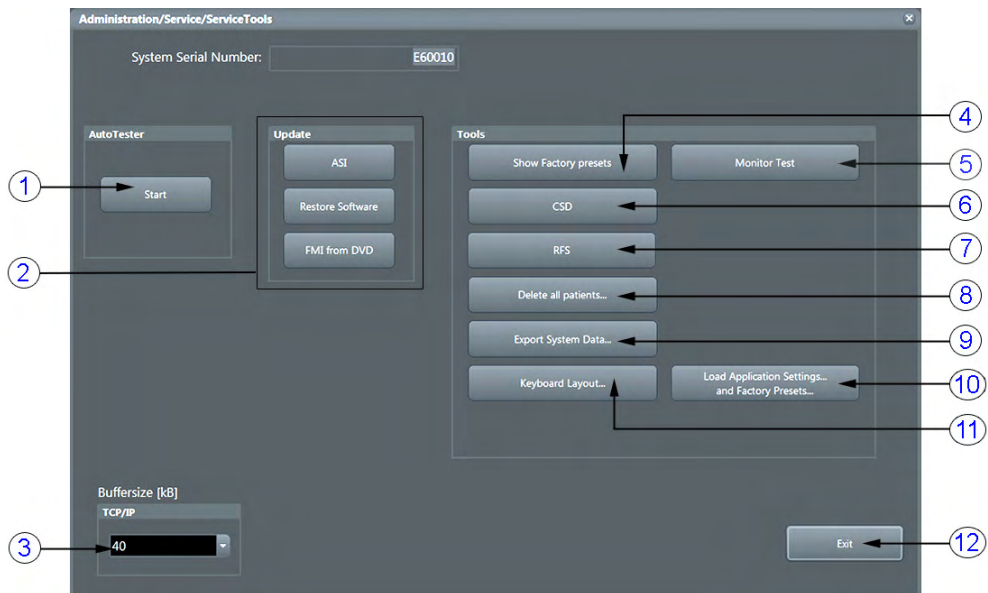

Figure 5-19 Service Tools page
5. Enter the password <SHE> and click the **Accept** button to display the Service Tools page (see Figure 5-19 on page 5-39).
4. Enter the password <SHE> and click the **Accept** button to display the Service Tools page (see Figure 5-19 on page 5-39).
1. Click the **Load Application Settings** button on the “Service Tools” page (see Figure 5-19 on page 5-39).